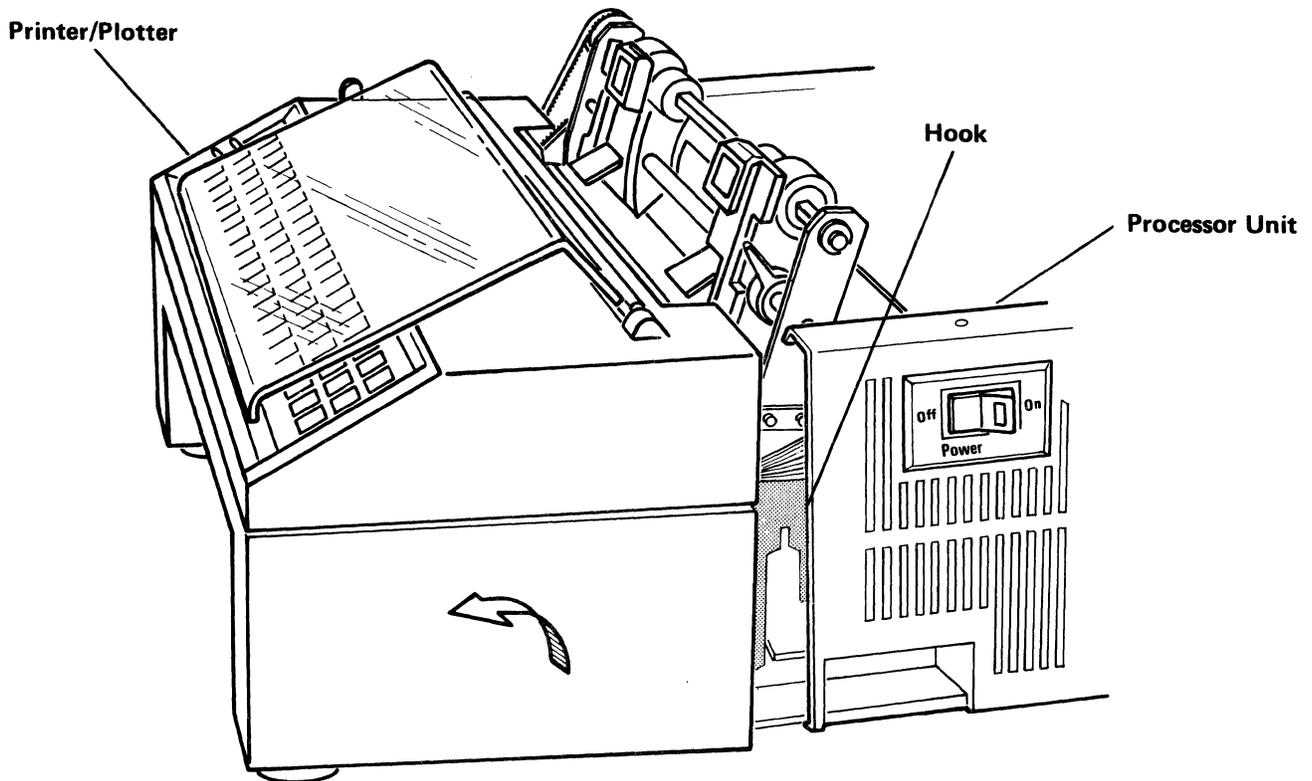

Figure 4-28. Separating Printer/Plotter from Processor Unit.
13. Holding the printer/plotter by the front, tilt the front up, then lift until the hooks at the top release from the processor unit. Move the printer/plotter forward two or three inches away from the processor unit (See Figure 4-28).